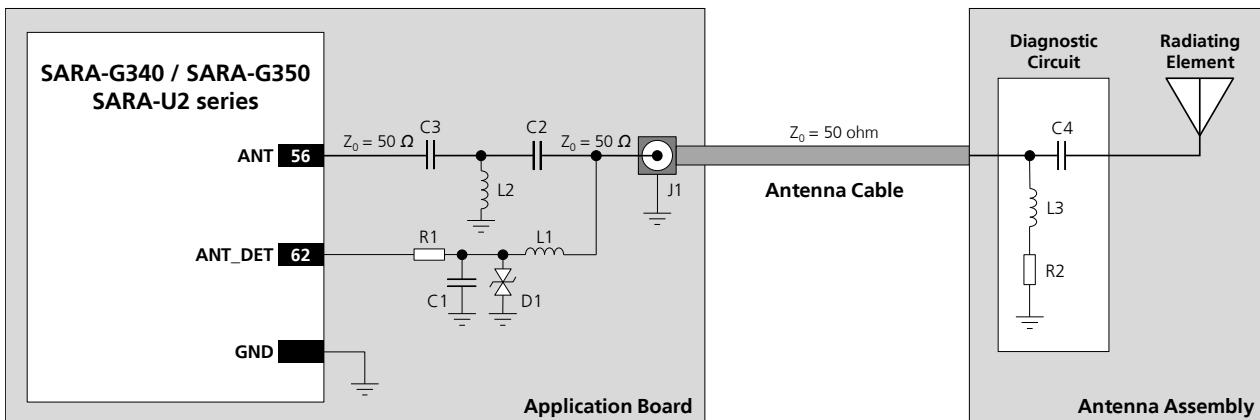
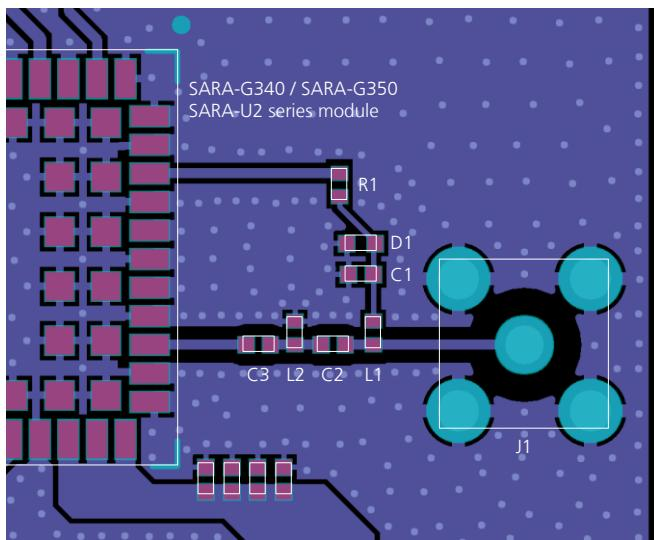

Figure 60: Suggested schematic for antenna detection circuit on application board and diagnostic circuit on antenna assembly
Figure 61: Suggested layout for antenna detection circuit on the application board
Figure 60 and Table 39 describe the recommended schematic and components for the antenna detection circuit to be provided on the application board for the diagnostic circuit that must be provided on the antenna assembly to achieve antenna detection functionality.
The antenna detection circuit and diagnostic circuit suggested in Figure 60 and Table 39 are explained below:
- Additional components (R1, C1 and D1 in Figure 60) are needed at the **ANT\_DET** pin as ESD protection.
- Additional high pass filter (C3 and L2 in Figure 60) is provided at the **ANT** pin as an ESD immunity improvement for SARA-U260, SARA-U270 and SARA-U280 modules (a series 0  $\Omega$  jumper can be mounted for SARA-G340 and SARA-G350 modules instead of the high pass filter, as no further precaution to ESD immunity test is needed).
The DC impedance at the RF port for some antennas may be a DC open (e.g. linear monopole) or a DC short to reference GND (e.g. PIFA antenna). For those antennas, without the diagnostic circuit of Figure 60, the measured DC resistance is always at the limits of the measurement range (respectively open or short), and there is no means to distinguish between a defect on the antenna path with similar characteristics (respectively: removal of linear antenna or RF cable shorted to GND for a PIFA antenna).
Figure 61 describes the recommended layout for the antenna detection circuit to be provided on the application board to achieve antenna detection functionality, implementing the recommended schematic described in the previous Figure 60 and Table 39.
The antenna detection circuit layout suggested in Figure 61 is explained below: